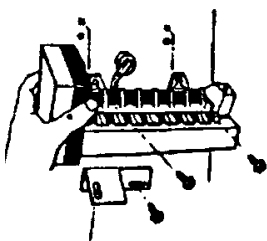
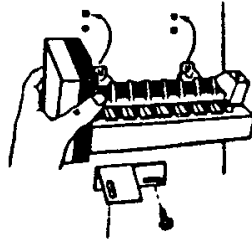

FIG. 1
FIG. 2
2. Remove defective ice maker from freezer. The ice maker may be held in place by three screws (Figure 1) or by two clips and one screw (Figure 2).